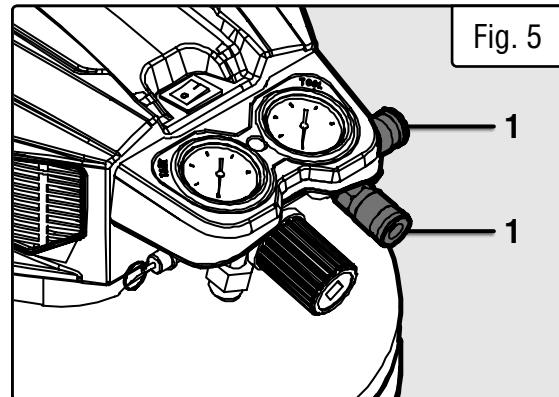

Fig. 5
7. Make sure the pneumatic tool's throttle or switch is in the OFF position. Connect the air hose to the air outlet (Fig. 5 - 1) and connect the air tool to the air hose.